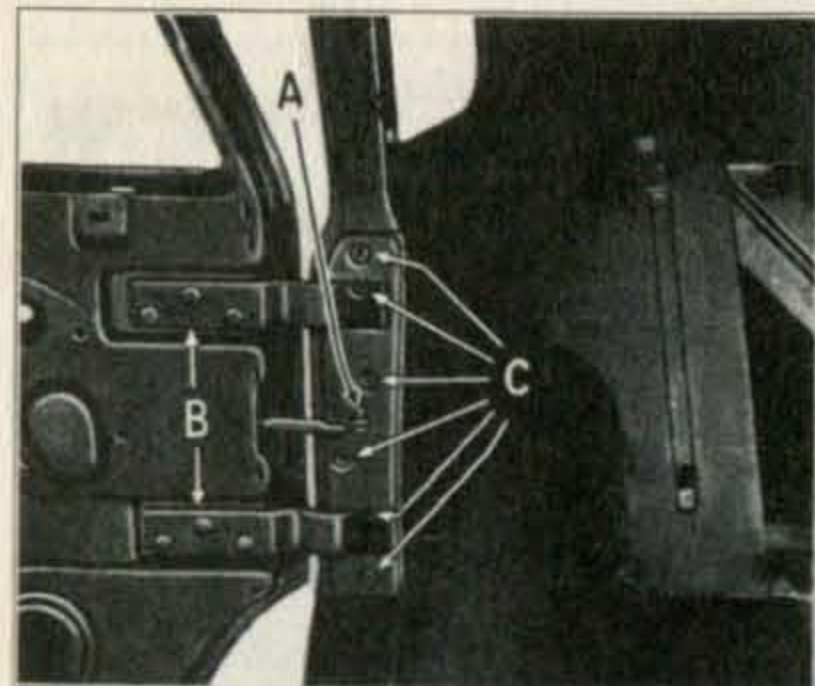

Fig. 16. Door Hinge
- Remove cap screws from door panel or slotted screws from body hinge pillar and pin. (See Fig. 16.) Hinge halves can now be removed.